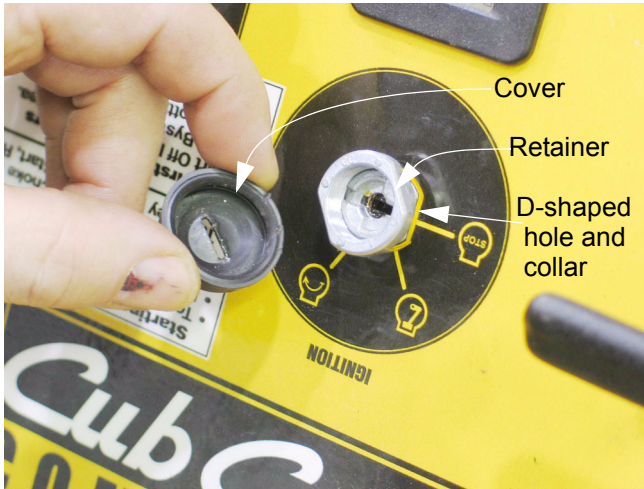

Figure 28.1
28.1. The **key switch** is easily removed from the front panel of the control housing for diagnosis or replacement. See Figure 28.1.